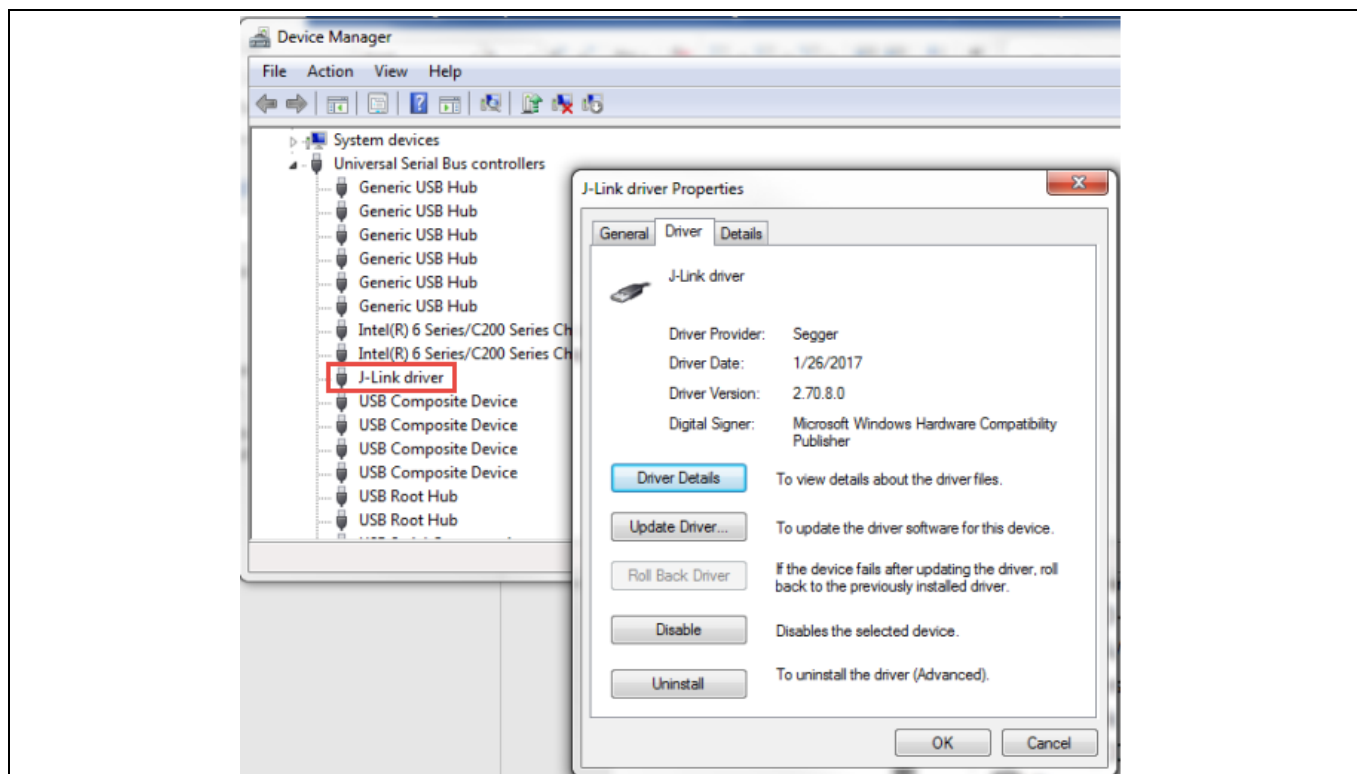

Figure 2 Device Manager listing J-Link device
2. Once the software is installed, connect J-Link to the kit’s debug connector and then plug the J-Link into a USB port on the computer. When USB enumeration completes, the J-Link device should appear on a Windows PC in the Device Manager as **Figure 2** shows.